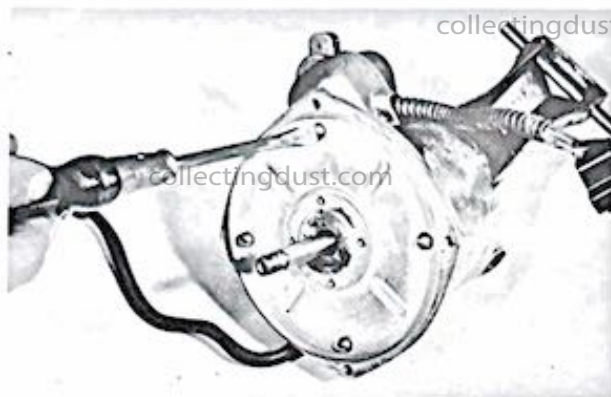

Figure 1-15. Removing front bearing plate screws
e. Remove the four screws (45) that secure the front bearing plate assembly (44) to the motor housing as shown in figure 1-15; remove the assembled front bearing plate and bearing.